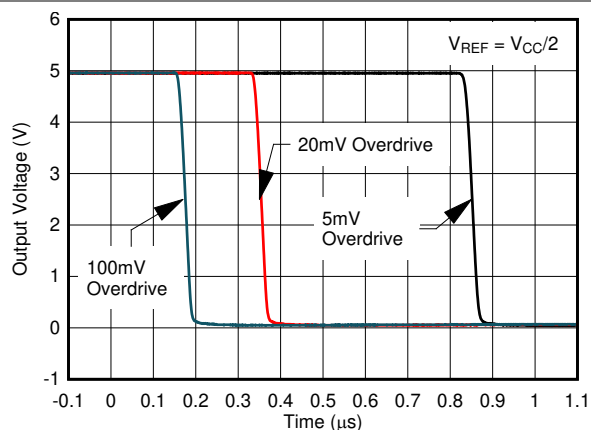

Figure 6-31. Response Time for Various Overdrives, High-to-Low Transition
- R_{CE} can be determined by taking the slope of Figure 6-31 in the linear region at the desired temperature, or by dividing the V_{OL} by I_{OUT}